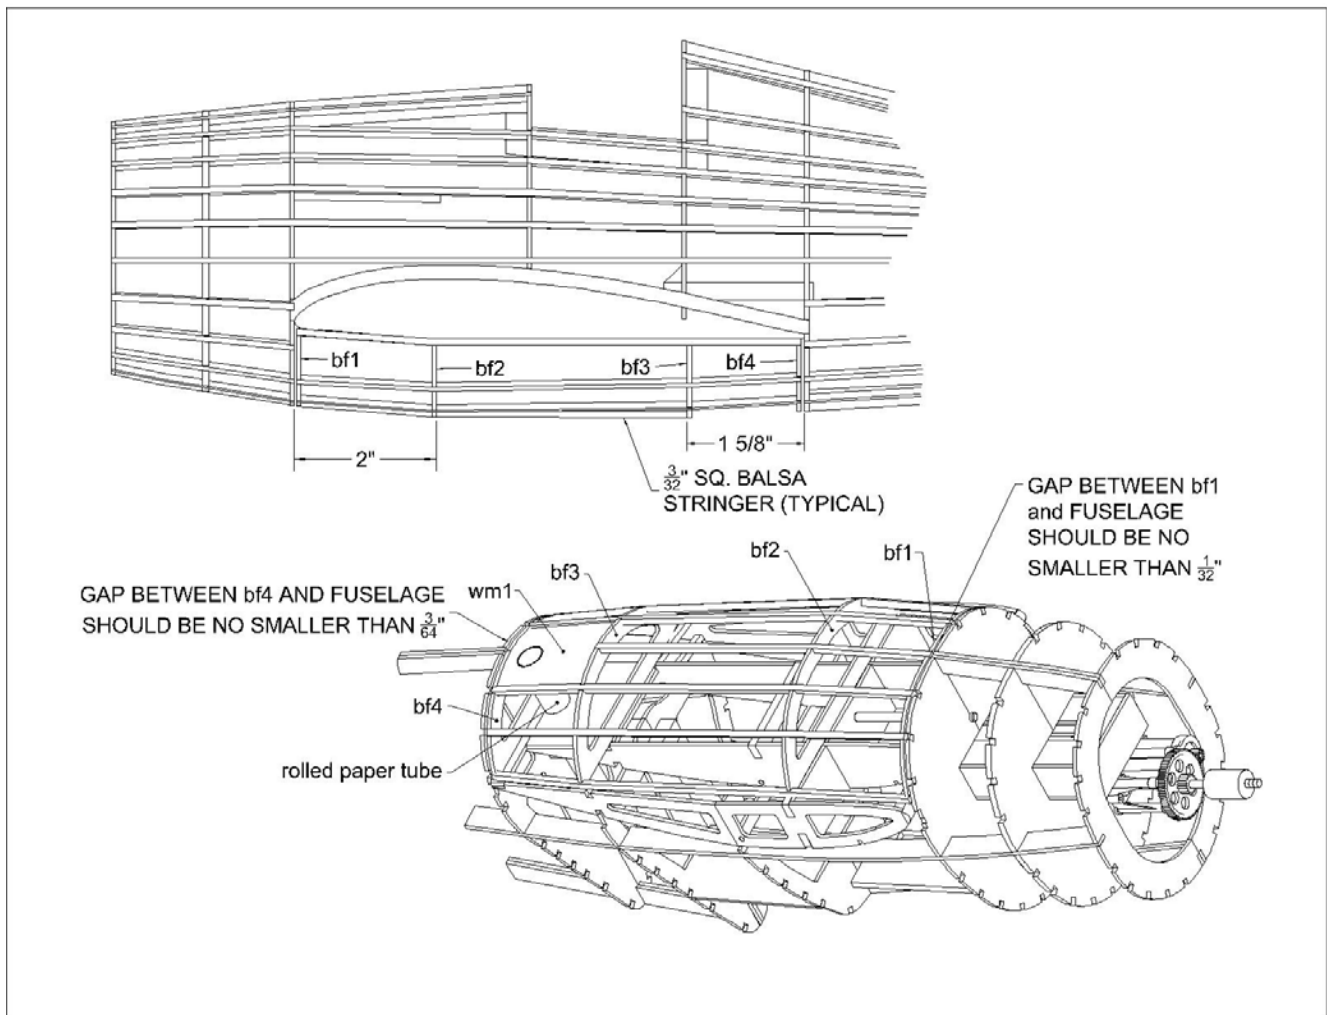

Figure 12
- Pin and glue the belly formers **bf1** through **bf4** on the bottom of the wing. The order of the belly formers is shown in Figure 12. Note the distances between the belly formers **bf1/bf4** and fuselage formers **f3/f3a/f6** shown in figure 12. These gaps are necessary to make the wing removable.